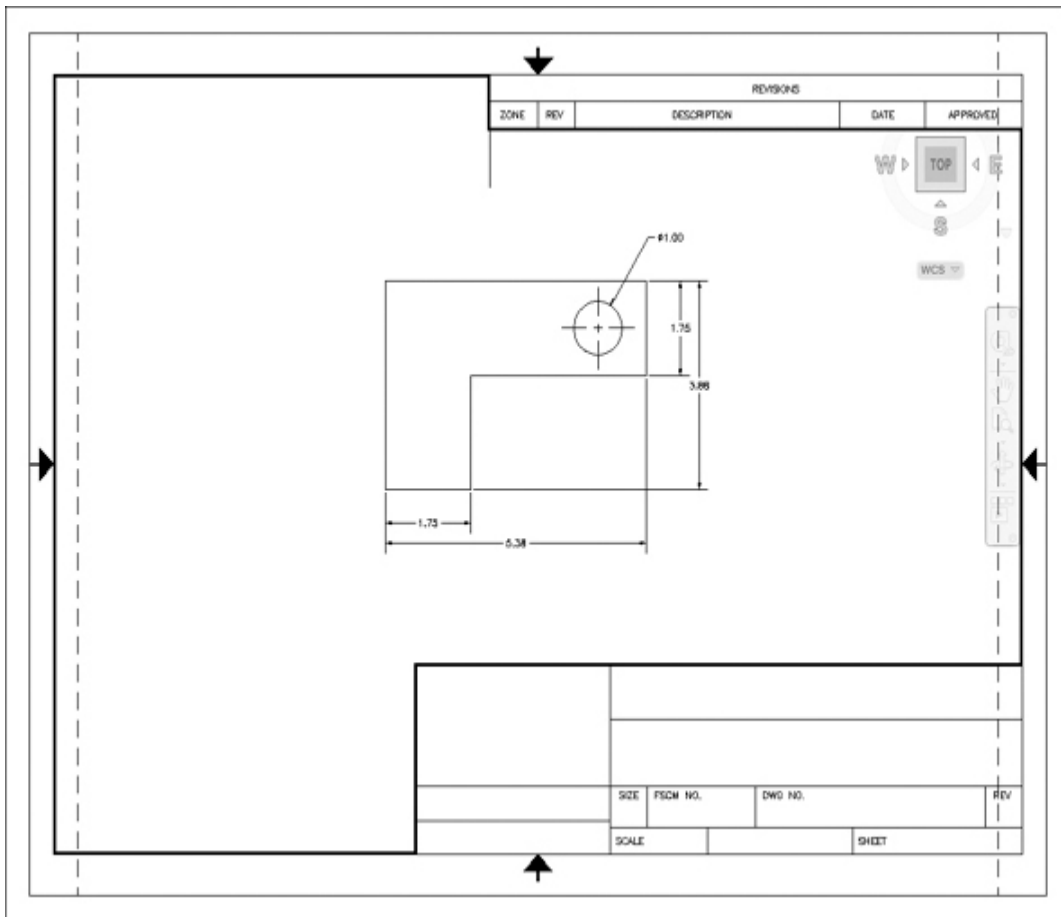

Figure 2-51
- 6 Choose **Pan** from the navigation bar, and pan your drawing so that it looks like Figure 2-51.